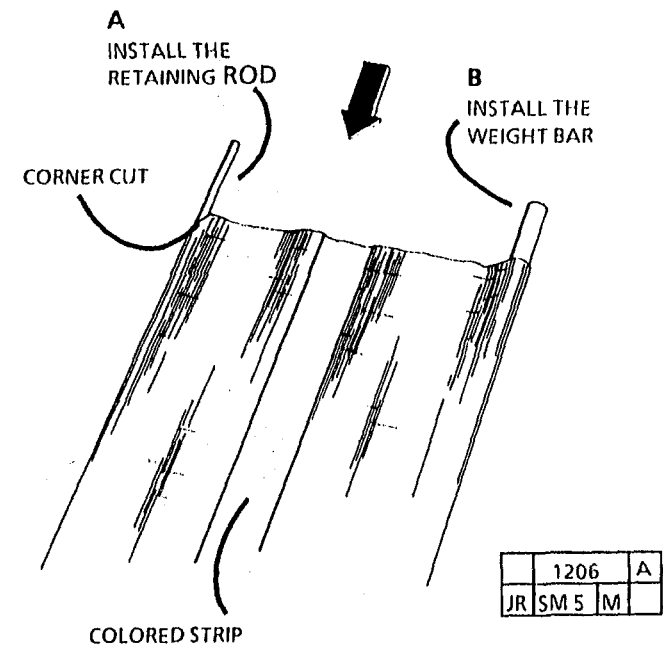

Figure 2. Install the Retaining Rod and the Weight Bar into the Fabric Guide
1. (Figure 2): Install the retaining rod and the weight bar into the fabric guide.